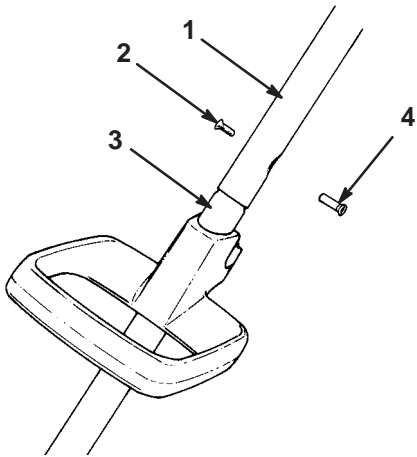

Figure 3
- Slide the lower tube into the upper tube until the screw holes line up (Fig. 3).
- Secure the upper and lower tubes by inserting the countersunk nut and the slotted screw (supplied in the loose parts bag) through the aligned holes in the tubing (Fig. 3).